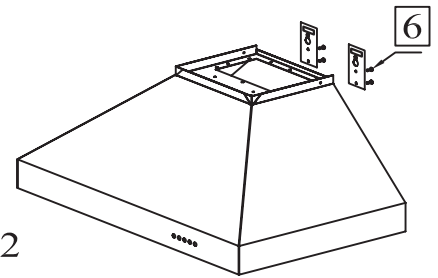

fig. 2
**Step three:** If your hood comes with separate mounting brackets, they must be installed to the back of the hood at this point. fig.2 Otherwise your mounting points are integrated into the construction of the hood.